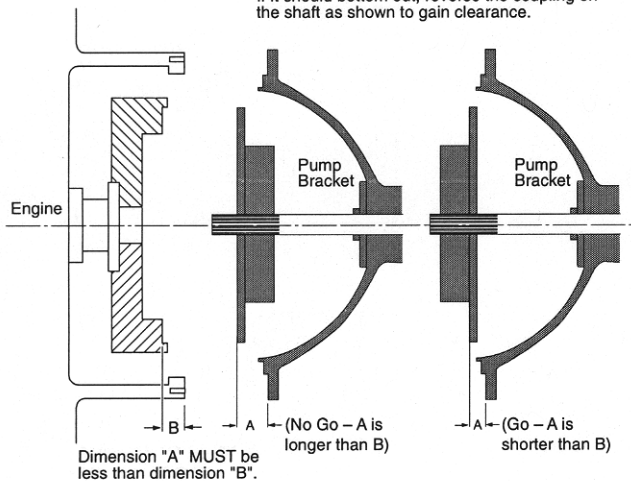

Figure 4
- Measure the distance from the engine side of the flywheel coupling adapter ring to the mounting face of the pump bracket. Refer to Figure 4 below, Dimension "A".
- Next, measure depth from face of flywheel housing on engine, to face on flywheel against which coupling will be bolted. Refer to Figure 4 below, Dimension "B".